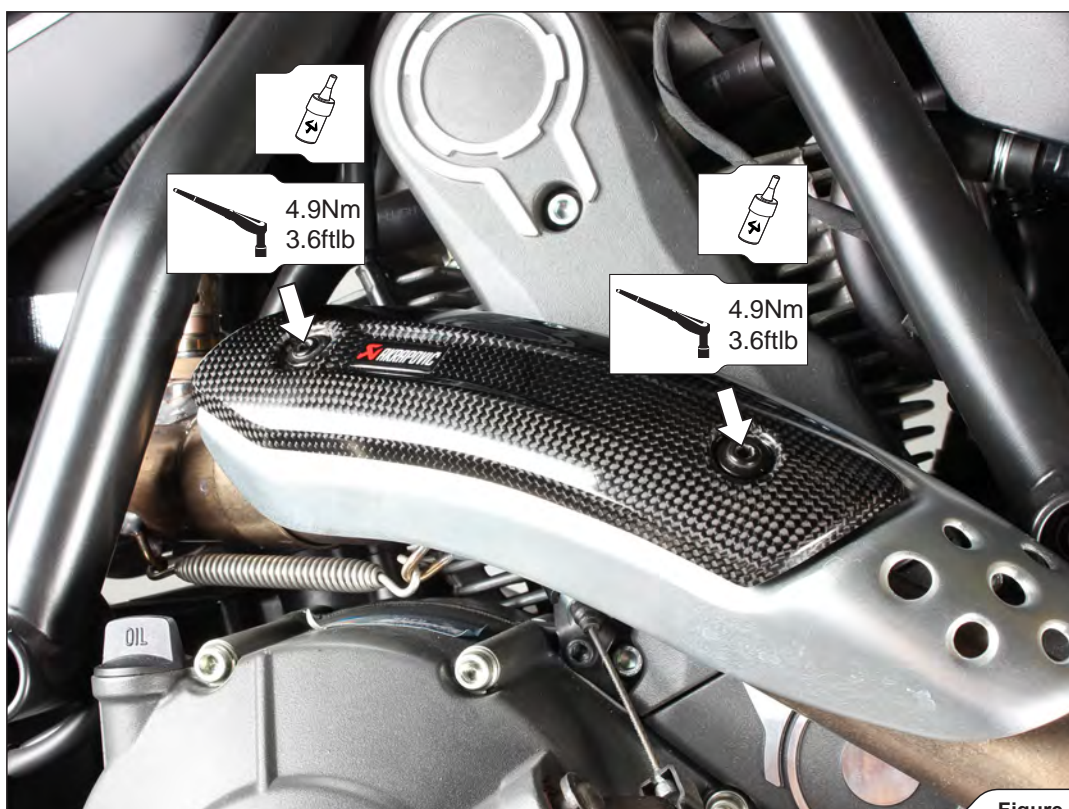

Figure 2
3. Install the Arapovič optional carbon fiber heat shield, using stock bolts (**Figure 2**).